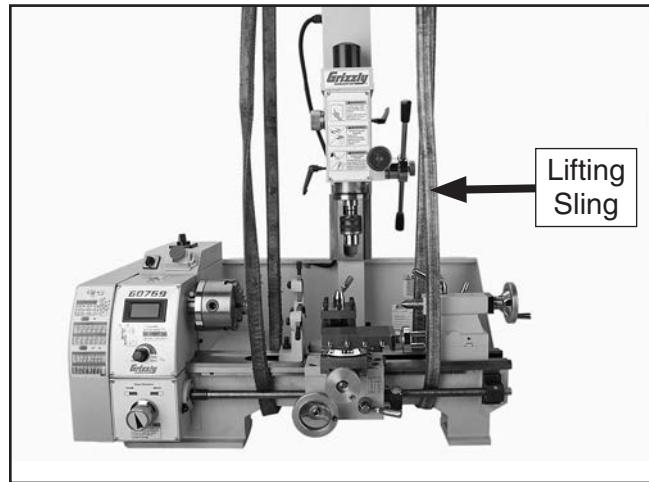

Figure 14. Example of lifting sling positions.
5. Wrap lifting slings around bed and between leadscrew and bedway, as shown in **Figure 14**, to help prevent bending leadscrew during lifting.